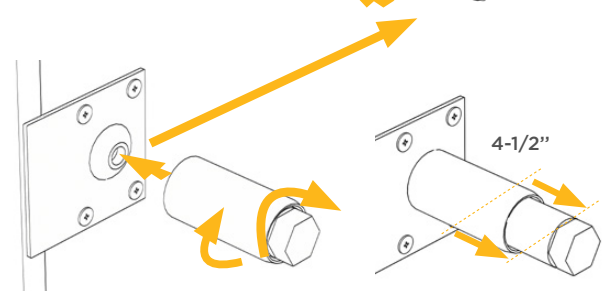

Figure 2
- If your cabinet requires more than four legs, refer to the diagram in Figure 2 to position the center legs with the flange facing the cabinet's center.
- Adjust the leg length to approx. 4-1/2" (Figure 2). This will create a nominal cabinet height of 34-1/2". Screw the legs into the base plate.